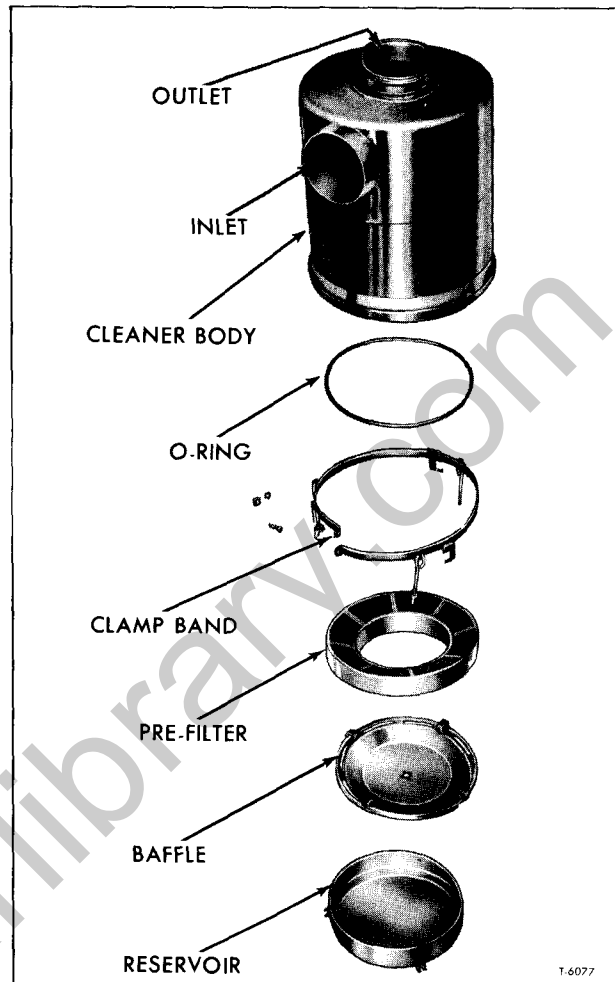

Figure 8—Oil Bath Air Cleaner
1. Loosen thumb screws which attach reservoir to cleaner body (fig. 8), rotate slightly to left and lower reservoir.